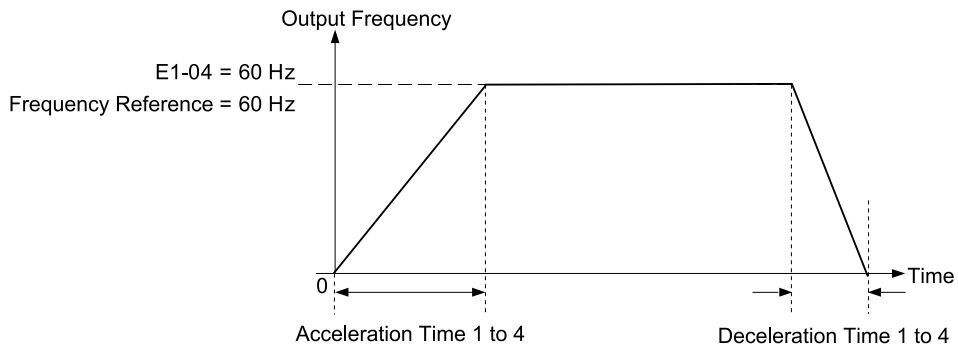
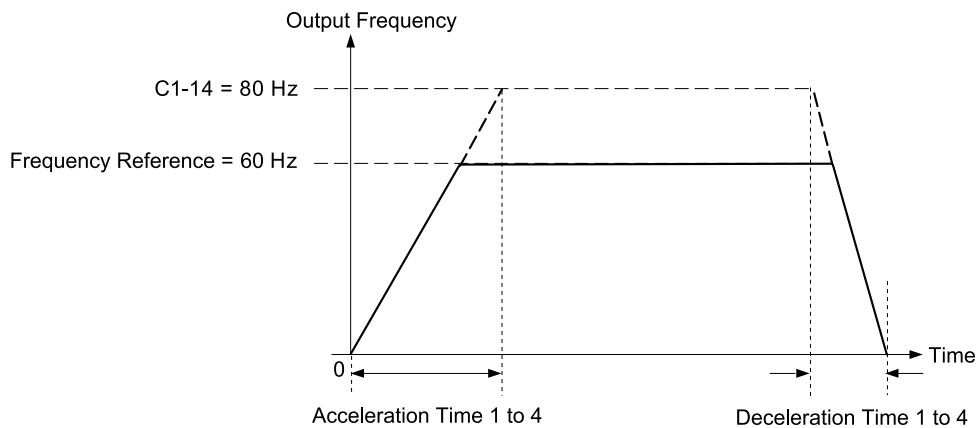

Figure 2.31 Example 1: Acceleration/Deceleration Rate (When C1-14 = 0 Hz, E1-04 = 60 Hz, and the Frequency Reference is 60 Hz)
Figure 2.33 Example 3: Acceleration/Deceleration Rate (When C1-14 = 80 Hz, E1-04 = 60 Hz, and the Frequency Reference is 60 Hz)
- Figure 2.31 to Figure 2.33 show the accel/decel times when C2-01 to C2-04 [S-Curve Times @ Start/End of Accel/Decel] = 0.00 s.